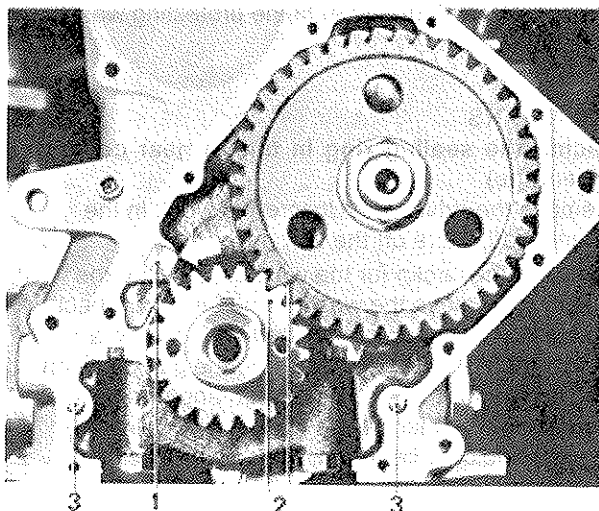
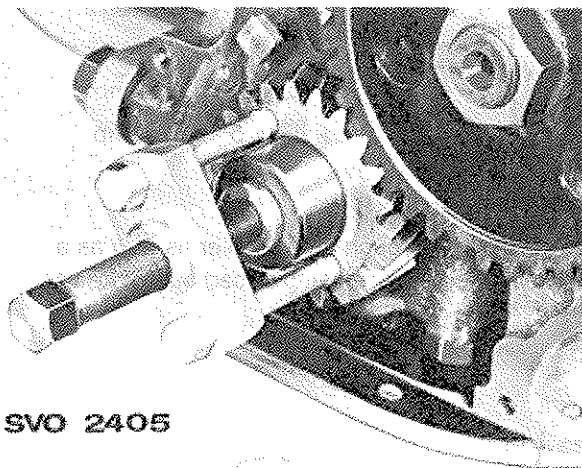
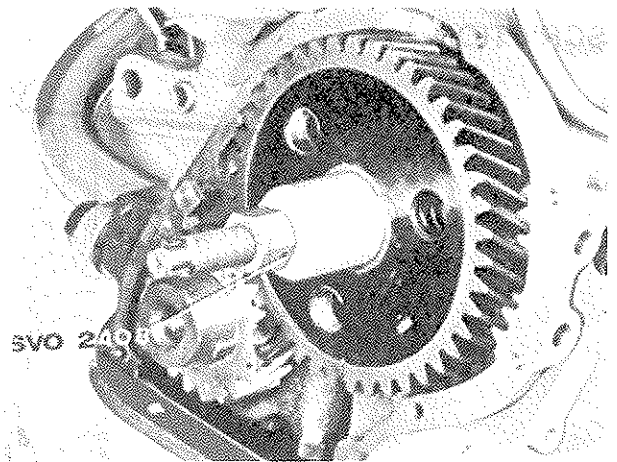

Fig. C14. Marking on timing gears (6-cyl. engine)
Fig. C15. Removing the crankshaft drive (4-cyl. engine)
Fig. C16. Fitting the camshaft gear(4-cyl. engine)
4. Pull off the crankshaft drive with puller SVO 2405, see Fig. C15. Unscrew the oil nozzle, blow it clean and then refit it according to Fig. C14, so that the oil jet is aimed at the meshing of the timing gears.
5. Fit the crankshaft drive with tool SVO 2407, and the camshaft gear with tool SVO 2408, see Fig. C16. Fit the hub on the crankshaft. The hub can be drawn into position by the bolt for the crankshaft pulley. Do not push the camshaft towards the rear so that the sealing washer on the rear end loosens. Check that the gears have the correct position relative to each other, as shown in Fig. C14. Tool SVO 2407 has wrench flats intended for turning the crankshaft. The measurements for the tooth flank clearance and axial play of the camshaft, which is determined by the spacer ring behind the camshaft gear, are to be found in the "Specifications". Centre and fit the timing gear cover and the rest of the parts according to points 4-8 under "Replacing the timing gear cover (4-cyl. engine)".
4. Pull off the camshaft gear with puller SVO 2822. Screw out the oil nozzle, blow it clean and refit it according to Fig. C14. The timing gears are lubricated from the oil nozzle.
6. Fit the camshaft gear with tool SVO 2408, see Fig. C16. When the timing gear drive markings coincide with each other, then the piston for No. 6 cylinder is at top dead centre, firing position. Do not press the camshaft backwards so the sealing washer at the rear end loosens. Fit the nut and tighten it to a torque of 13-15 kgm (94-108 lb.ft.).